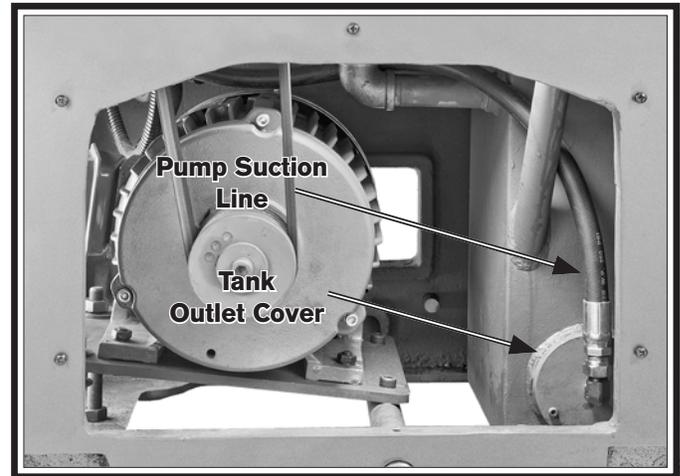

Figure 102. Location of tank outlet cover.
8. Place rags under the tank outlet cover to catch the residual oil in the tank when the cover is removed in the next step (see **Figure 102**).